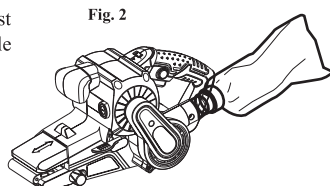

Fig. 2
Install the dust collector to outlet (1) for dust removal (Fig. 2)